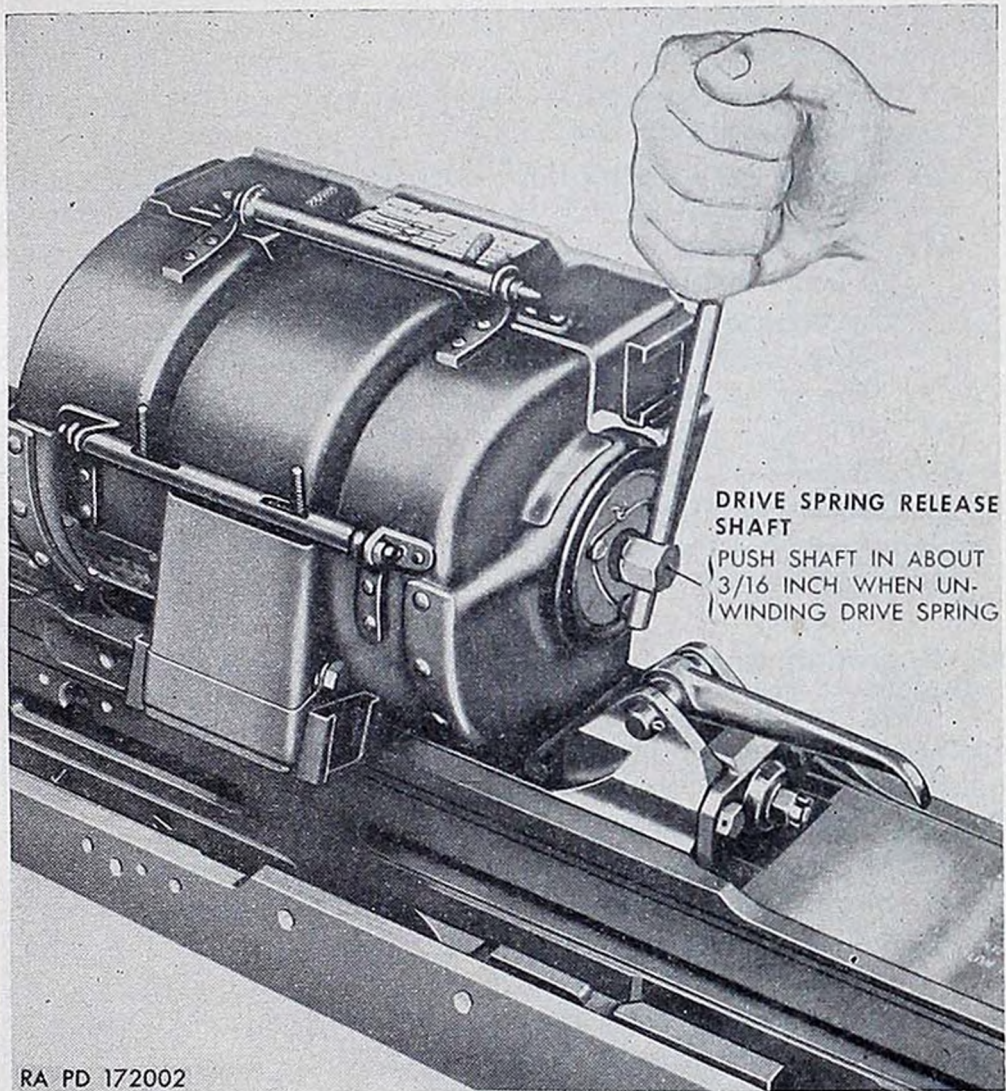

Figure 43. Unloading the feed mechanism.
Note. The operation shown in figure 43 for the AN-M2 mechanism is also applicable to the M2E4 and M2E5 mechanisms.
- c.* If the rounds of ammunition in the belt have not been completely expended, it will be necessary to unwind the drive spring. Push shaft in about three-sixteenths of an inch (fig. 43) and, at the same time, rotate the shaft about three-quarters of a turn in the direction opposite to that of winding. Pull the belt from the feed mechanism and then proceed as in *b* above.